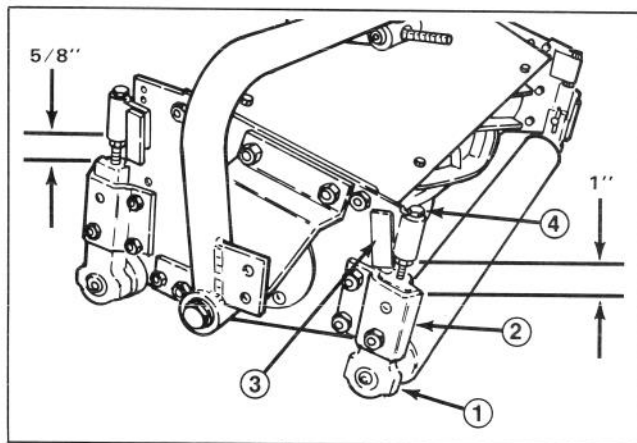

Figure 6
## LEVEL REAR ROLLER (Fig. 6)
2. Slightly loosen (crack) nut securing each roller bracket to angle bracket (Fig. 6).
3. Adjust support capscrew to achieve 1"  $\pm$  1/16 dimension between Height-of-Cut support and *front* roller bracket (2 places) (Fig. 6).
4. Adjust support capscrew to achieve 5/8"  $\pm$  1/16 dimension between Height-of-Cut support and *rear* roller bracket (2 places) (Fig. 6).